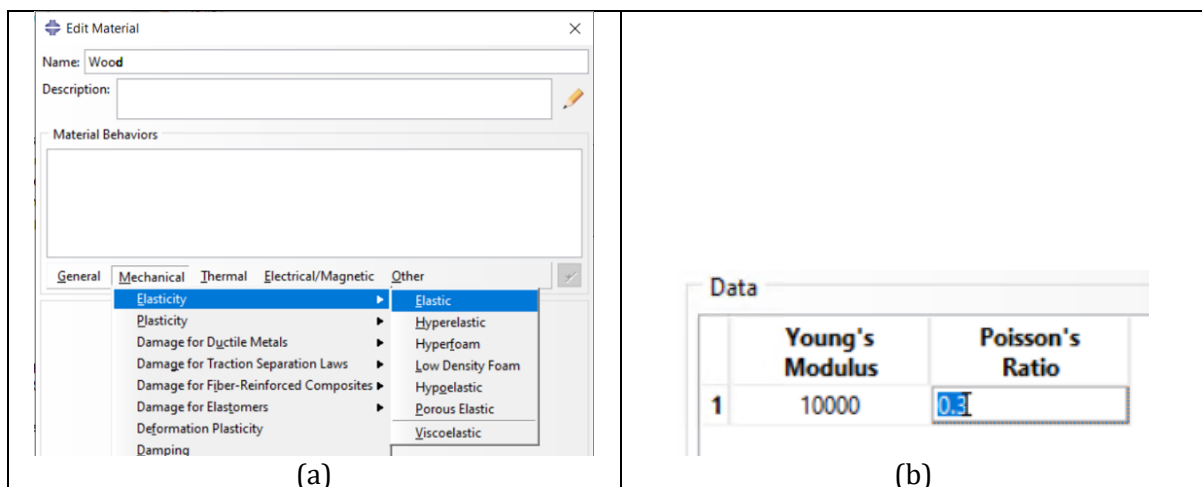

Figure 2-9 – (a) The Edit Material dialog box and (b) material editor.
3. From the material editor's menu bar, select **Mechanical** → **Elasticity** → **Elastic**, as shown in Figure 2-9(a).
4. Enter a value of **10000** for **Young's Modulus** and a value of **0.3** for **Poisson's Ratio** in the respective fields, as shown in Figure 2-9(b).
The **Create Section** dialog box appears, shown in Figure 2-9(a).
The **Edit Section** dialog box appears, shown in Figure 2-9(b).